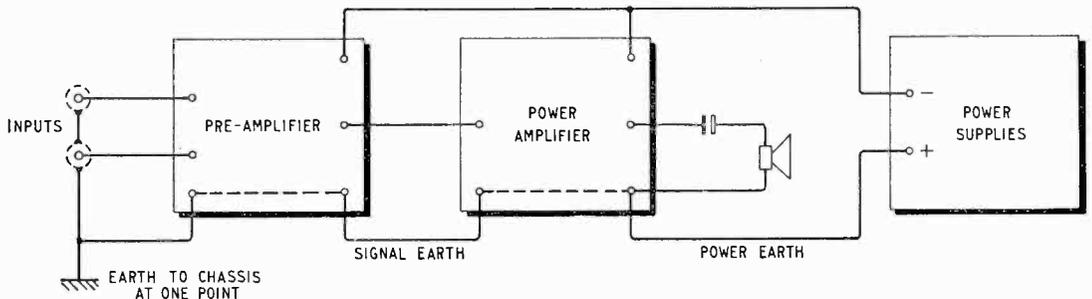

Fig. 9. Earthing diagram for power amplifier and associated equipment.
**Earthing.**—The correct connection of earths (see Fig. 9) is essential if distortion is to be avoided, since the earth wire to the output stage carries large asymmetric earth currents, from the Class-B output stage, which can produce appreciable voltages across quite short pieces of wire. If these voltages are coupled into the input of the amplifier even harmonic distortion will be produced.